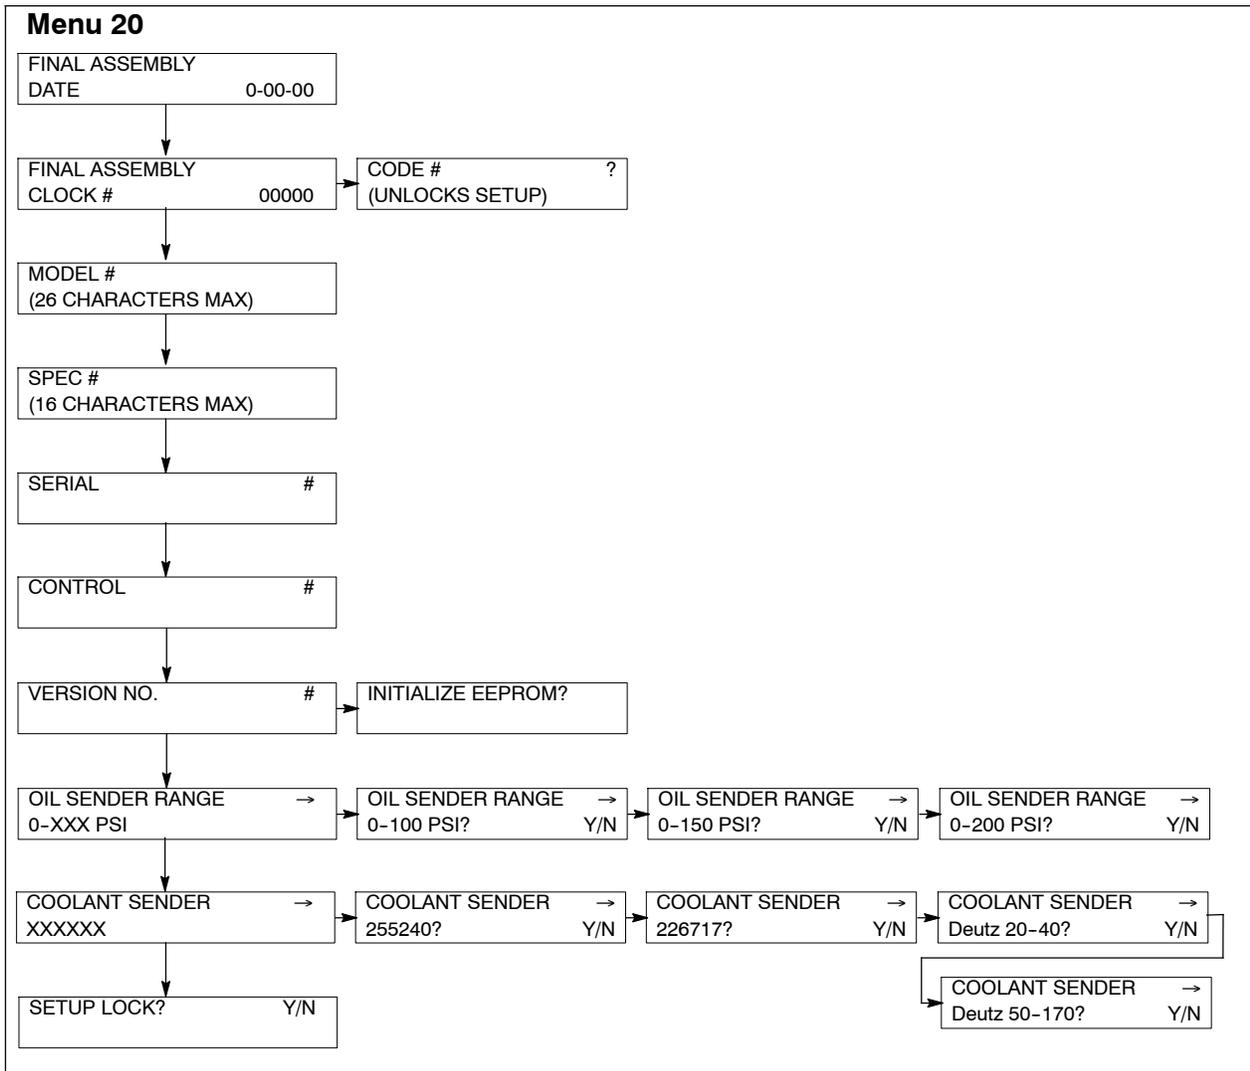

Figure 8 Menu 20 Setup
- 9.1 Press the Reset Menu key, enter 20, and press the Down Arrow key to go to Menu 20, Setup. See Figure 8.